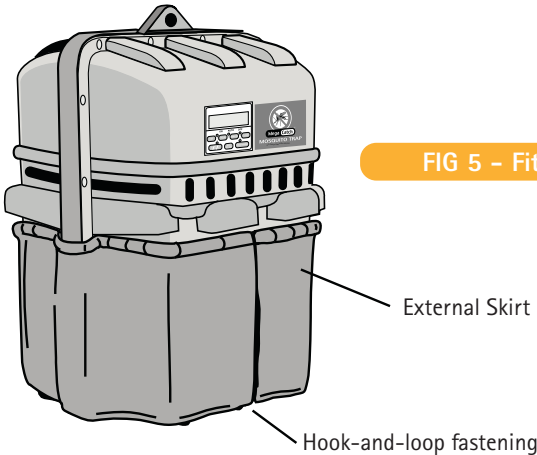

FIG 5 – Fitting External Skirt
3. The Skirt is properly fitted when the elastic band is seated over the lower horizontal rib, just below the inlet holes (see figure 5). The opening in the Skirt should be located at the front of the Trap so as to facilitate removal of the Door without having to remove the Skirt. The hook-and-loop fastening on this opening should be closed when the Trap is running.